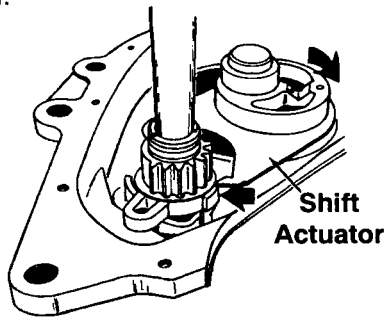
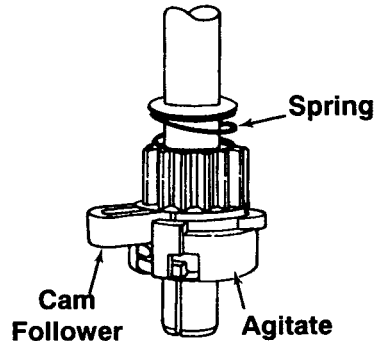
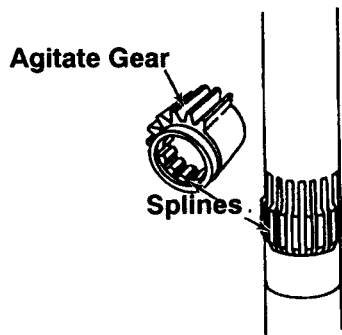

Fig. 28
Fig. 29
Fig. 30
4. The main drive gear moves the shift actuator forward so that it engages the agitate cam (Fig. 28), and pushes it into the agitate position. (Fig. 29) The action of the agitate cam and cam follower allow the agitate gear to be forced down by spring action so that it engages the splines on the agitator shaft. (Figures 30 and 31) Now everything is set up for agitation.